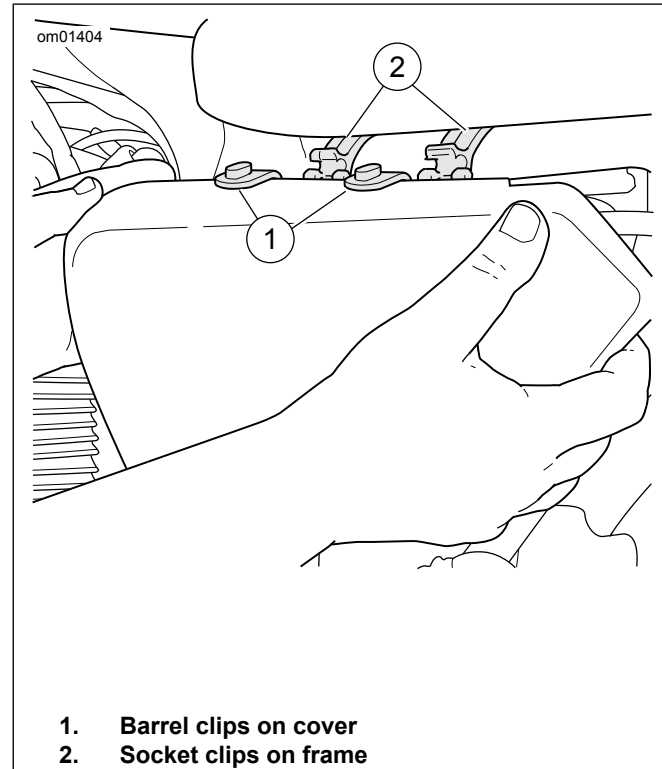

Figure 60. Left Side Cover
1. See Figure 60. Grasp left side cover at upper corners and gently pull away from frame. Disengage the front clip first for easier opening.